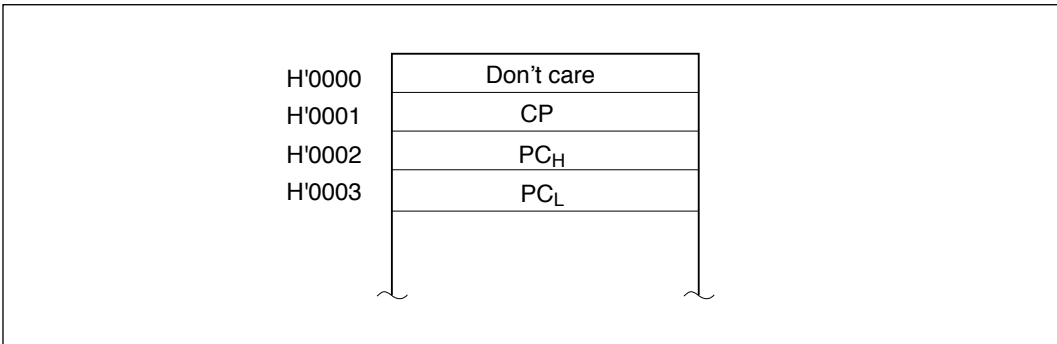

Figure 4-6 Reset Vector in Maximum Mode
(2) **Maximum Mode:** Figure 4-6 shows the reset vector in maximum mode.